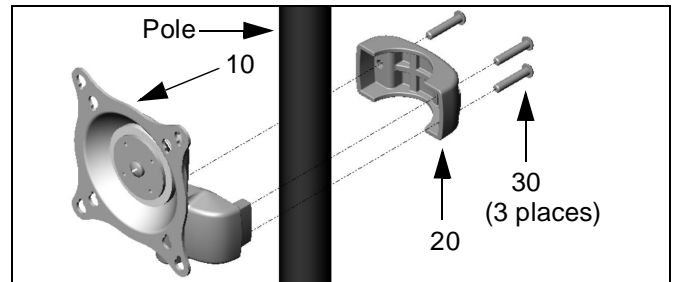

Figure 9: Pole Mount Installation
- Place mount (10) against pole, with clamp (20) on opposite side of pole (See Figure 9). Using 5/32" hex key, loosely assemble with screws (30).